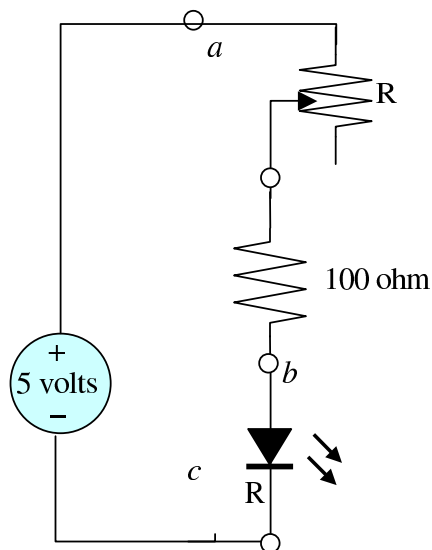

FIGURE 15. Circuit for Lab 1
4.1. Pre-lab Tasks: Consider the circuit shown in figure 15. This circuit consists of a 5 volt independent voltage source driving a resistive circuit with a single LED. One of the resistors is a 100 ohm resistor. The other resistor is a variable resistor whose value can be changed between 0 and 10 kilo ohms. Since the second resistor's value is variable, the second resistor's value is denoted by the variable R .
4.2. In-Lab Tasks: The In-lab task asks you to breadboard the circuit shown in figure 15 and then to use a DMM to make current and resistance measurements on the circuit. Remember that to use the amp meter you will need to actually break the circuit and place the amp meter in series with the resistors. Your lab book's description of the IN-LAB task must include the following:
- (1) A description of what happened during the IN-LAB task. This is a description of what you did. If things did not work out and you had to make a change, go ahead and write this down as well. This description is a record that you can use later to remind yourself of what actually occurred in the lab.
- (2) Construct the circuit on the breadboard shown in figure 15. You should use the following steps
- (3) Use the DMM to measure the resistance of the variable resistor. You can change this resistance by turning the knob on the component. Using the same resistance values used in pre-lab, measure the current going through the diode and observe the brightness of the diode. Make qualitative observations about the LED's brightness as a function of current. Note that you will need to remove the resistor from the circuit to accurately measure the potentiometer's resistance.
- (4) Use the DMM to measure the voltage drop across the LED. Is this what was expected? Why or why not?